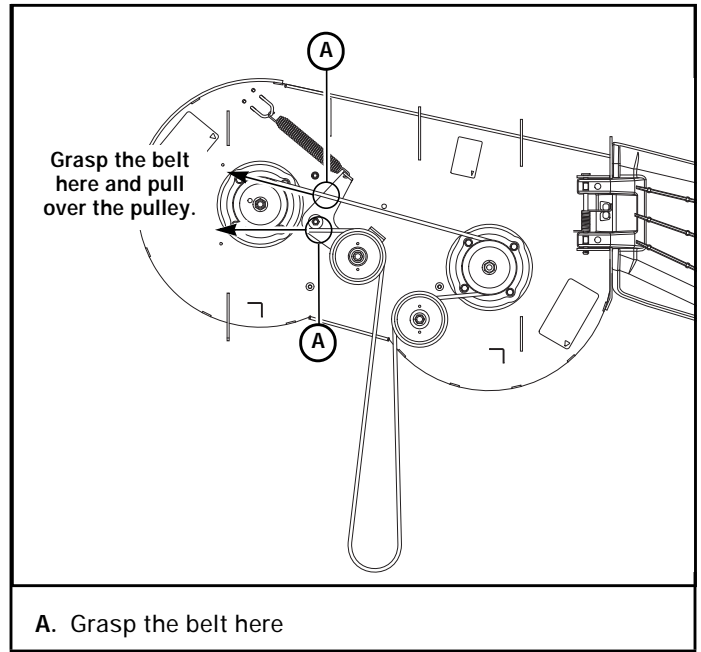

Figure 4-7
6. Release the tension from the deck drive belt by grasping the belt at the two locations shown and pulling the belt over the left spindle pulley. Figure 4-7
14. Grasp the belt at the two locations shown and pull the belt over the left spindle pulley. Figure 4-7